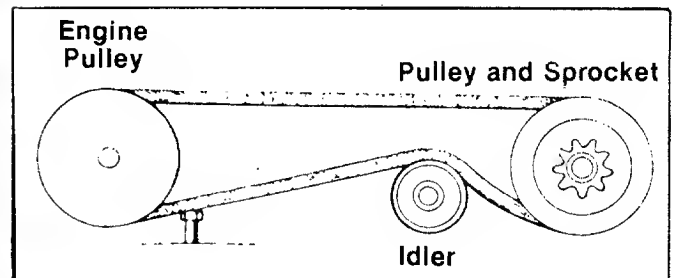

FIGURE 26.
11. Reassemble in reverse order with new belt, making certain the idler pulley is under the belt. See figure 26.